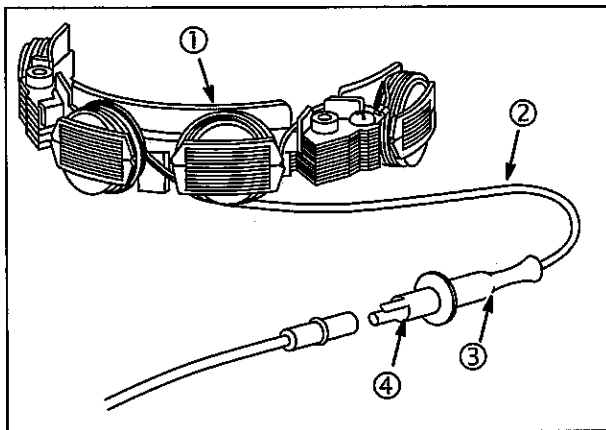

Fig. 12
1. Stator assembly (1), Fig. 12.
2. One RED lead from stator (2).
3. DIODE encased at connector (3).
4. RED connector output lead (4).